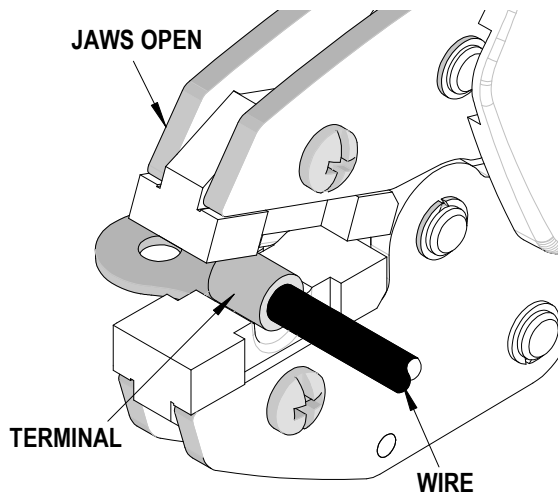

Figure 1
2. Push on wire to assure it is still fully seated in the terminal. See Figure 1 and 2. Cycle the tool.